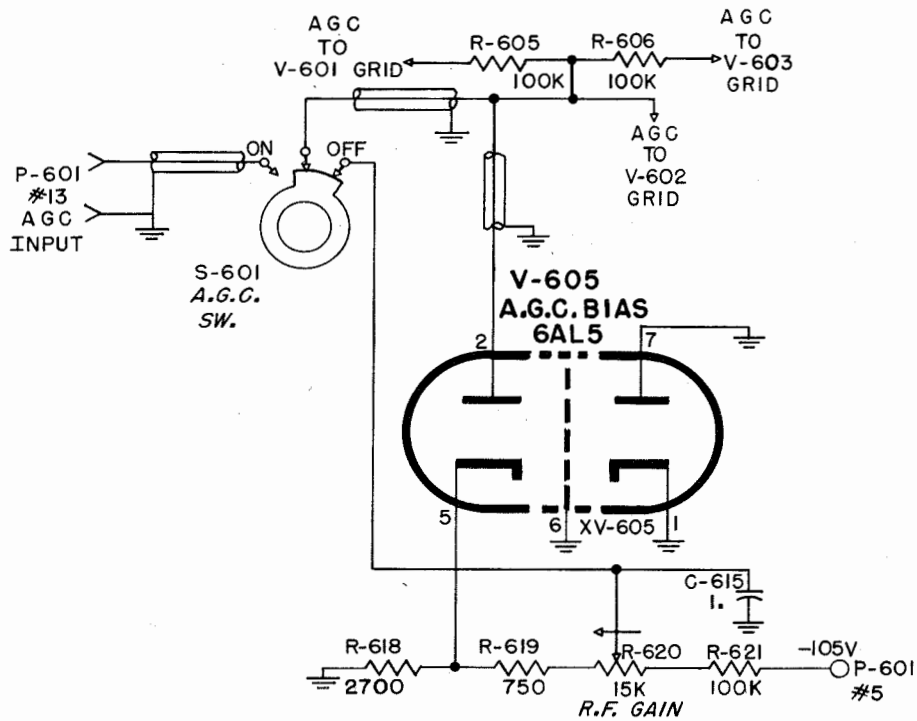

Figure 2-33. A.G.C. Bias Stage V-605, Simplified Schematic Diagram
(5) A.G.C. BIAS CIRCUIT, V-605 (AM-454/FRR-24). (See Figure 2-33).—Automatic gain control voltage is connected into the 50-kc. I.F. amplifiers through connector J-607. With the A.G.C. switch in the On position automatic gain control voltage is supplied to the grids of the I.F. tubes V-601, V-602